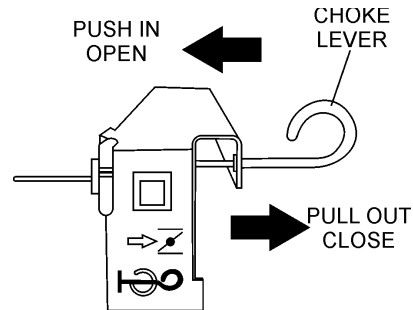

Figure 15. Choke Lever
2. Place the choke lever (Figure 15) in the **CLOSED** position if starting a cold engine.
3. Place the choke lever (Figure 15) in the **OPEN** position if starting a warm engine or the temperature is warm.
6. If the engine has started, slowly return the choke lever (Figure 15) to the **OPEN** position. If the engine has not started repeat steps 1 through 6.